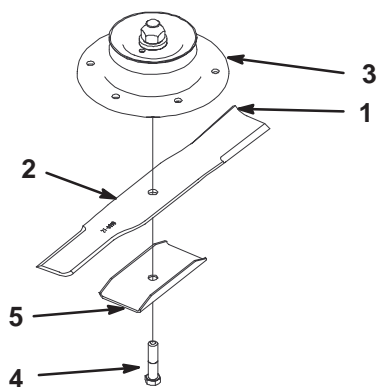
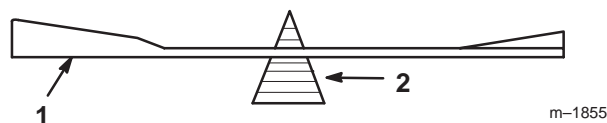

Figure 44
Figure 46
1. Hold the blade end using a rag or thickly-padded glove. Remove the blade bolt, blade stiffener and blade from the spindle shaft (Fig. 44).
2. Check the balance of the blade by putting it on a blade balancer (Fig. 46). If the blade stays in a horizontal position, the blade is balanced and can be used. If the blade is not balanced, file some metal off the end of the sail area only (Fig. 44). Repeat this procedure until the blade is balanced.
1. Install the blade onto the spindle shaft (Fig. 44).
Important The sail part of the blade must be pointing upward, toward the inside of the mower to ensure proper cutting (Fig. 44).
2. Install the washer, lock washer and blade bolt (Fig. 44). Torque the blade bolt to 85–110 ft-lb (115–140 N•m).